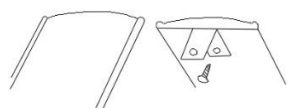

Figure 5
- iii) Screw pelmet return clip (part D) onto the back of the pelmet and attach pelmet returns (Figure 5)